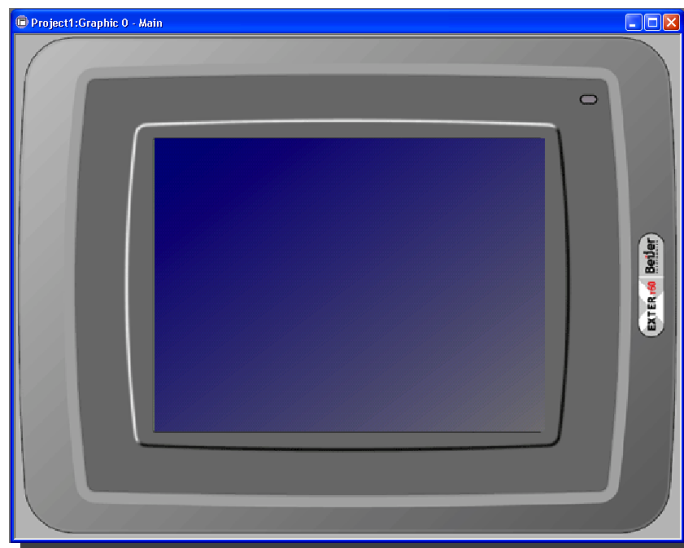

Figure 5: Main HMI block with extra flare
2. (Optional) With that in mind, right click the blank screen and select “Properties.” Go to the “Appearance Tab” to change the background of the screen to ones preference. Figure 5 shows a modified Main block below: